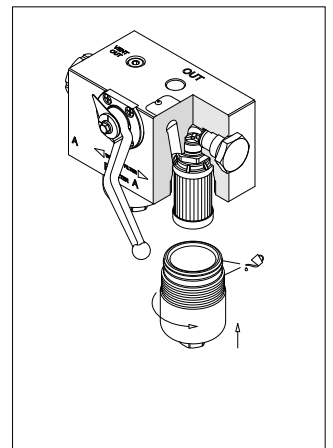

fig. 11
- (Fig. 11) Lubricate the thread and the O-ring of the bowl, then screw the bowl in referring to the tightening torque table in paragraph 3.